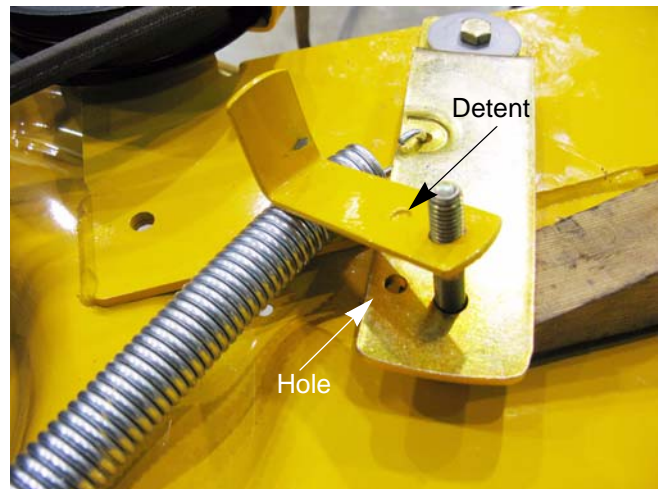

Figure 7.13
7. Slide the belt guide onto the pulley bolt so that the detent in the guide rests in the hole in the bracket. See Figure 7.13.